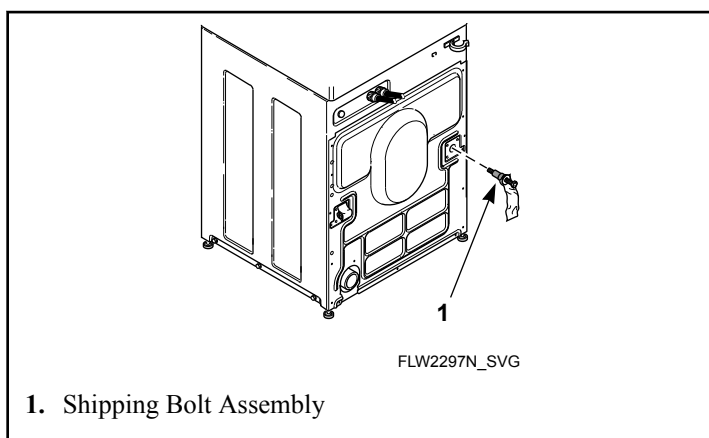

Figure 41
7. Insert shipping bolt assemblies into each shipping bolt hole. Refer to *Figure 41*.